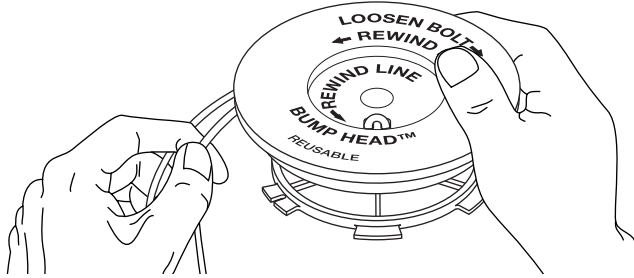

Fig. 16
7. Insert the end of the line into the open hole in the inner reel and pull the line tight to make the loop as small as possible (Fig. 16).
9. Wind the line in tight even layers in the direction indicated on the inner reel. (Fig. 16)